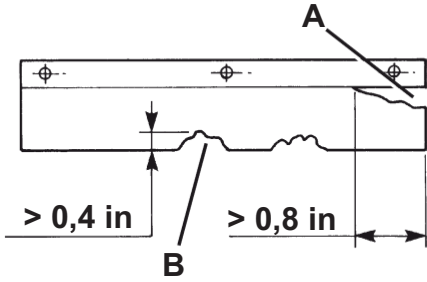

Figure 17
3. Replace the skirts when they have cuts (A, Fig. 17) larger than 0.8 in (20 mm) or cracks (B) larger than 0.4 in (10 mm) (for skirt replacement, refer to the Service Manual).